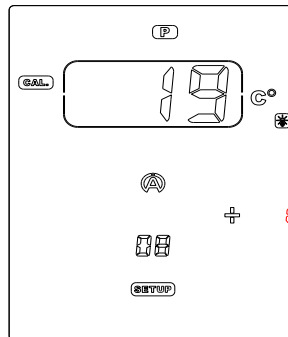

Figure 24
- 3) With the buttons  , adjust the temperature in the « FRAME » so that the displayed temperature corresponds to a temperature of reference (figure 24).